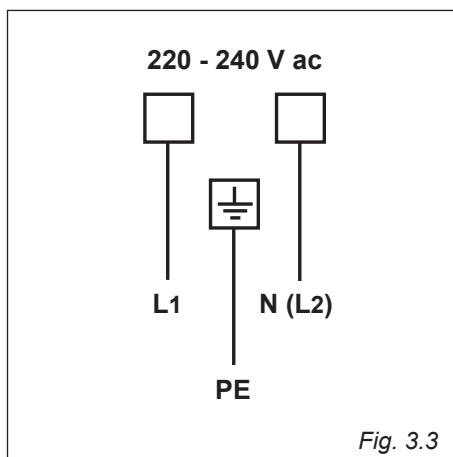

Fig. 3.3
- The new supply cable, of suitable type and section, is connected to the terminal board following the diagram of fig. 3.3.